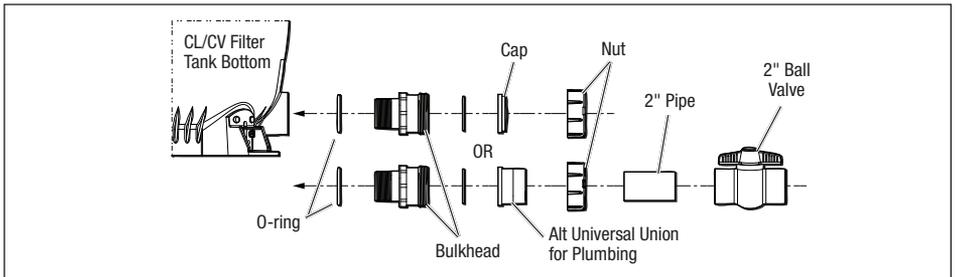

Figure 6. Jandy Pro CL and CV Series Cartridge Filter Drain Configurations
- 9. Connect the pipes using the unions supplied with the filter. *Do not use Teflon tape or pipe dope on any unions.* Assemble the unions dry and hand tighten. See Figure 6.
10. If desired, the CV filter drain can be plumbed using a Jandy Pro universal union. The plumbing must contain a ball valve as shown in Figure 6.